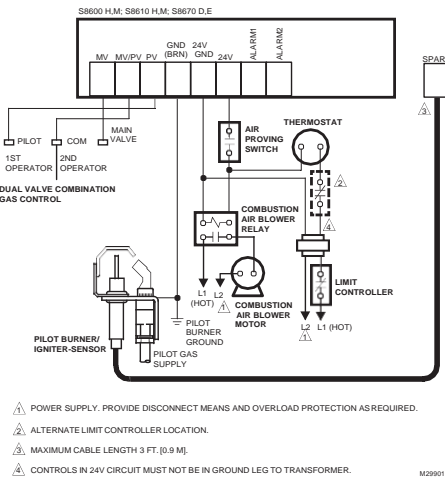

Fig. 5. S8600 H,M; S8610 H,M; S8670 D,E connections in a heating system with power-assisted combustion.
- Fig. 5—8 show typical circuits for power assisted combustion applications and two-stage gas control with power assisted combustion applications.